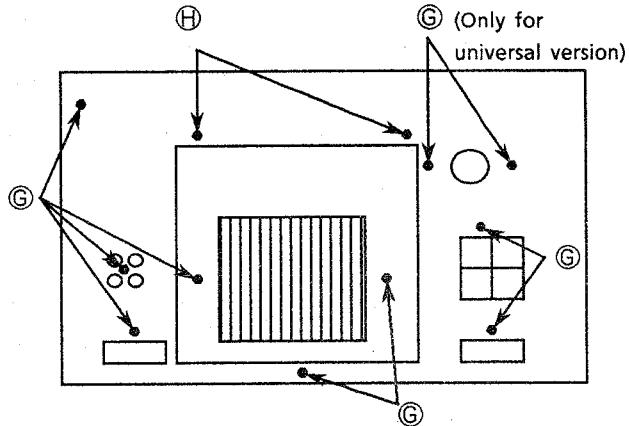

Fig. 5 Rear view
1. Remove the 2 screws ⑧ (Fig. 5).
3. Remove the screws ⑨ (Fig. 5).